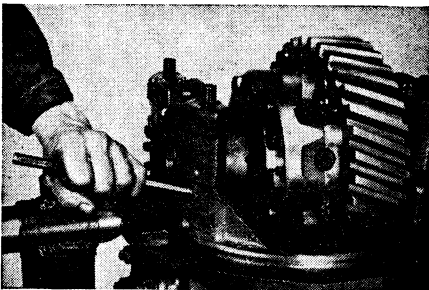

Fig. 54 Center punch one differential carrier leg and bearing cap to identify for proper reassembling
2. Center punch one differential carrier leg and bearing cap, Fig. 54, to identify for proper reassembling.